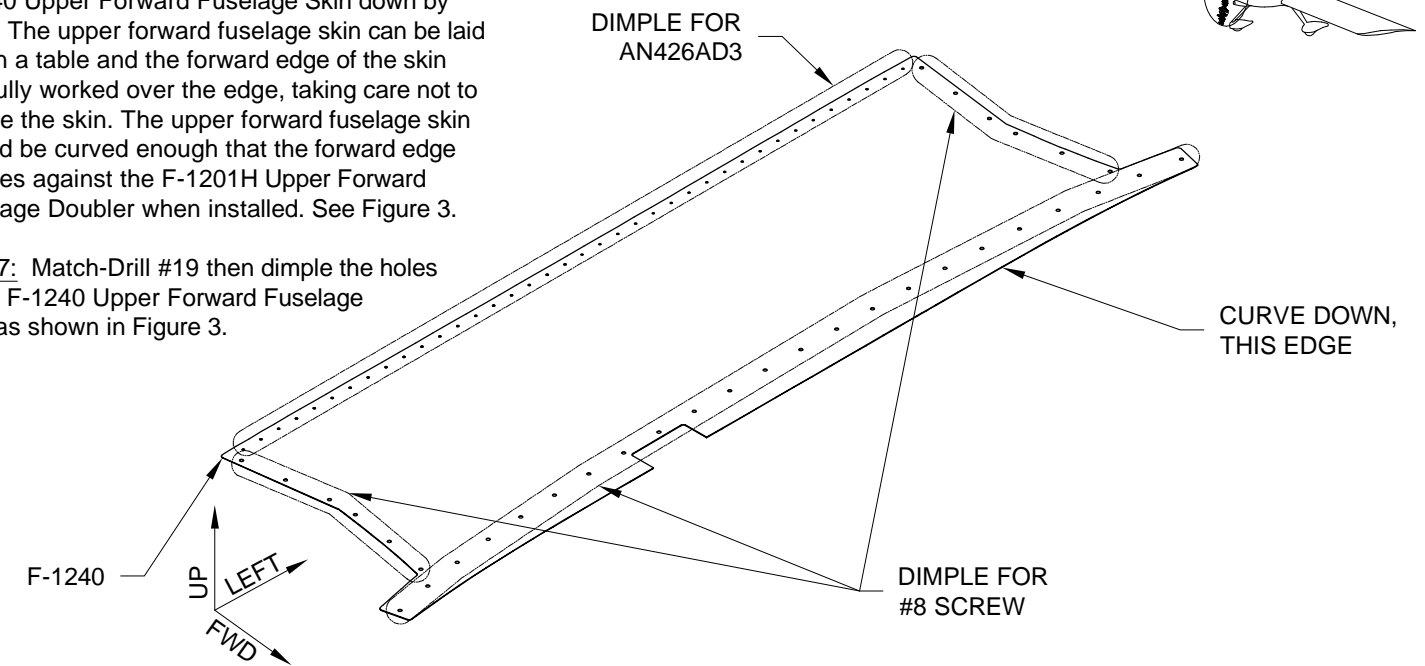

FIGURE 3: ROLLING THE UPPER FORWARD FUSELAGE SKIN
Step 6: Carefully curve the forward edge of the F-1240 Upper Forward Fuselage Skin down by hand. The upper forward fuselage skin can be laid flat on a table and the forward edge of the skin carefully worked over the edge, taking care not to crease the skin. The upper forward fuselage skin should be curved enough that the forward edge presses against the F-1201H Upper Forward Fuselage Doubler when installed. See Figure 3.
Step 7: Match-Drill #19 then dimple the holes in the F-1240 Upper Forward Fuselage Skin as shown in Figure 3.